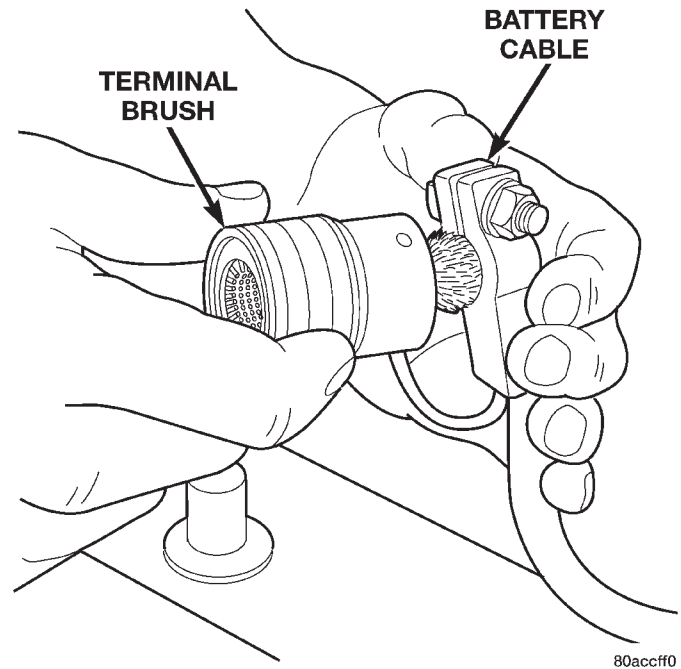

Fig. 16 Clean Battery Cable Terminal Clamp - Typical
- (3) Inspect the cable terminal clamps for corrosion and damage. Remove any corrosion using a wire brush or a post and terminal cleaning tool, and a sodium bicarbonate (baking soda) and warm water cleaning solution (Fig. 16). Replace any cable that has damaged or deformed terminal clamps.